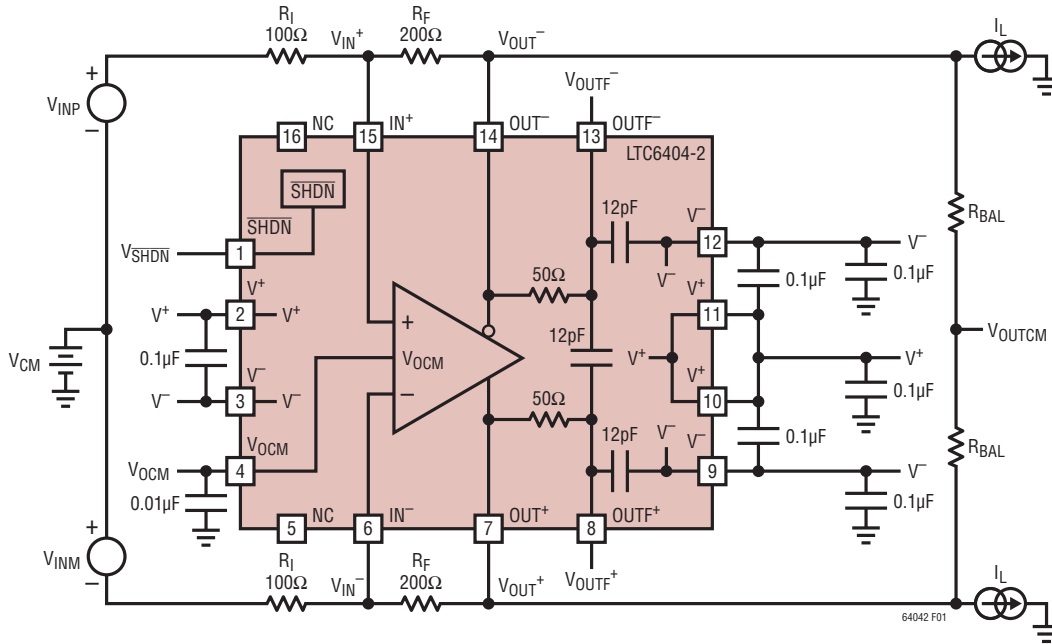

Figure 1. DC Test Circuit
**Note 7:** Input common mode range is tested using the test circuit of Figure 1 by measuring the differential gain with a  $\pm 1\text{V}$  differential output with  $V_{ICM} = \text{mid-supply}$ , and with  $V_{ICM}$  at the input common mode range limits listed in the Electrical Characteristics table, verifying the differential gain has not deviated from the mid supply common mode input case by more than 1%, and the common mode offset ( $V_{OSCM}$ ) has not deviated from the
The voltage range for the output common mode range is tested using the test circuit of Figure 1 by applying a voltage on the  $V_{OCM}$  pin and testing at both mid supply and at the Electrical Characteristics table limits to verify that the the common mode offset ( $V_{OSCM}$ ) has not deviated by more than  $\pm 20\text{mV}$  from the mid supply case.
Referring to Figure 1, the gain to VOUTDIFF from VINM and VINP is:
The input impedance looking into the  $V_{INP}$  or  $V_{INM}$  input of Figure 1 depends on whether the sources  $V_{INP}$  and  $V_{INM}$  are fully differential. For balanced input sources ( $V_{INP} = -V_{INM}$ ), the input impedance seen at either input is simply: